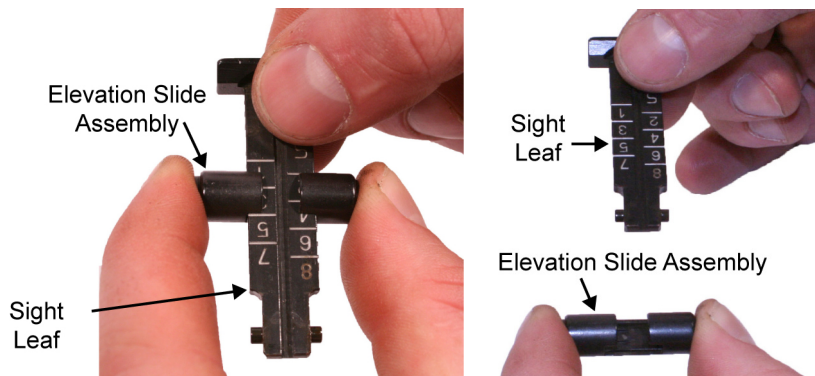

Figure 1. Depressing the Elevation Slide Assembly and Removing it from the Sight Leaf.
1. Depress the elevation slide assembly and remove it from the sight leaf. Refer to Figure 1.